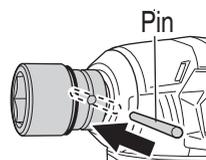

Fig. 7
- (2) Insert the pin into the socket. (Fig. 7)